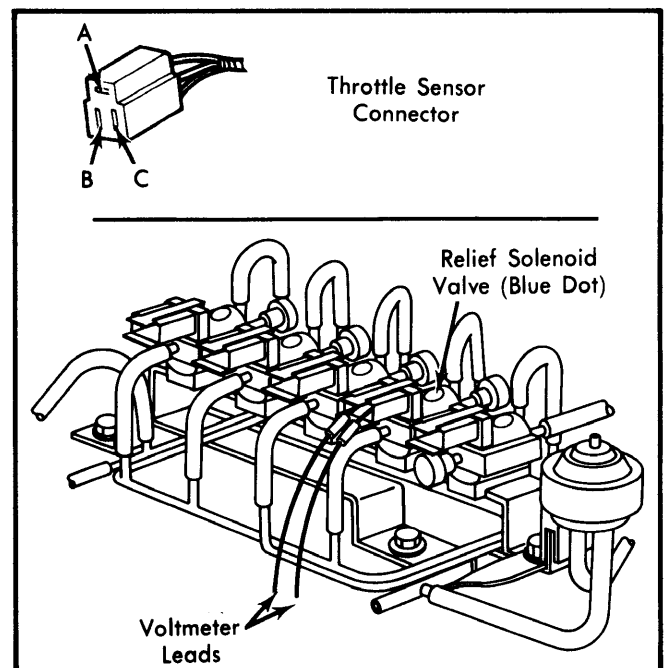

Fig. 4 Testing Relief Solenoid Valve Signal
- 1) Warm engine to normal operating temperature. Connect tachometer to engine. Connect voltmeter to relief solenoid valve connector terminals. Disconnect connector from throttle sensor and connect a jumper wire between terminals "A" and "C" of connector. See Fig. 4.